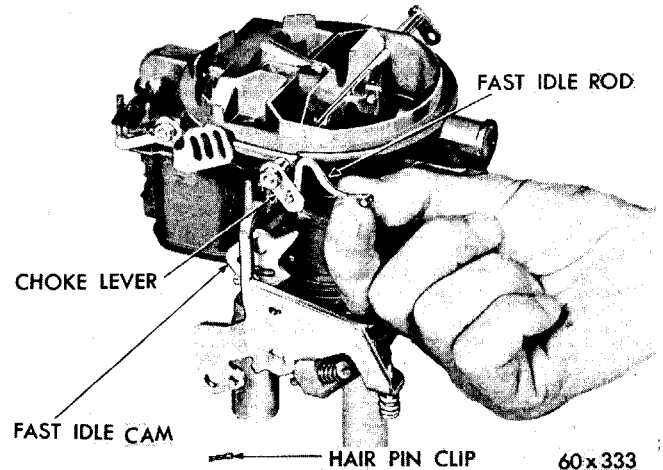

Fig. 4—Removing or Installing Fast Idle Rod
(3) Remove the hairpin clip that holds the fast idle rod in the fast idle cam. Disengage rod from cam, then rotate rod to disengage from choke lever, as shown in Figure 4.
(4) Remove the three short air horn attaching screws, then remove the two long air horn attaching screws next to the choke piston. Install two short